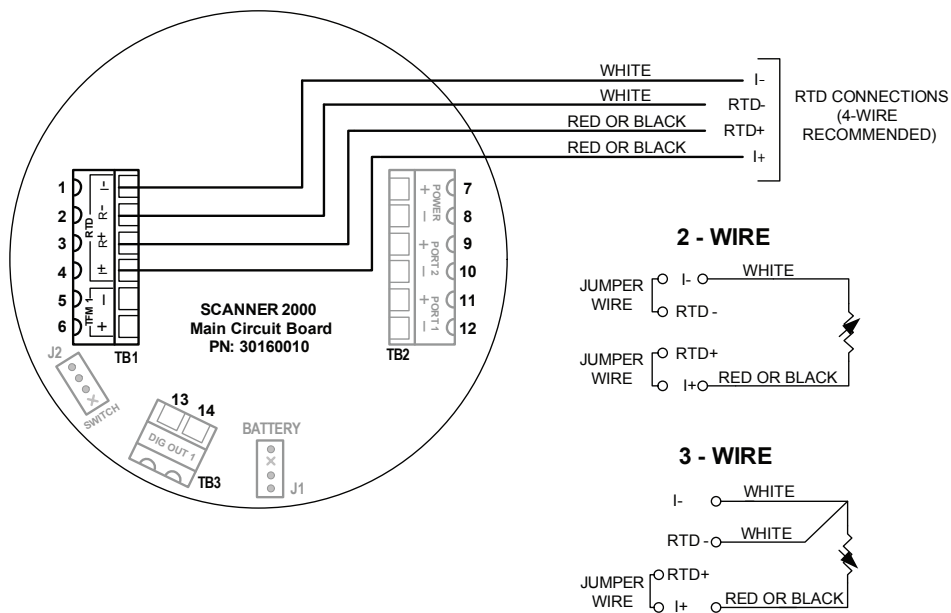

Figure 3.7—Process temperature input wiring
- d. Connect the process temperature input wiring to terminal block TB1, if appropriate. See Figure 3.7, page 57.
The RTD assemblies described in Appendix A of this manual are recommended for measuring temperature for use in temperature-compensated gas and liquid calculations, though a 2- or 3-wire RTD may prove functional. Wiring is essentially the same for all three models, though wire color may vary as indicated. Wire as shown in Figure 3.7.